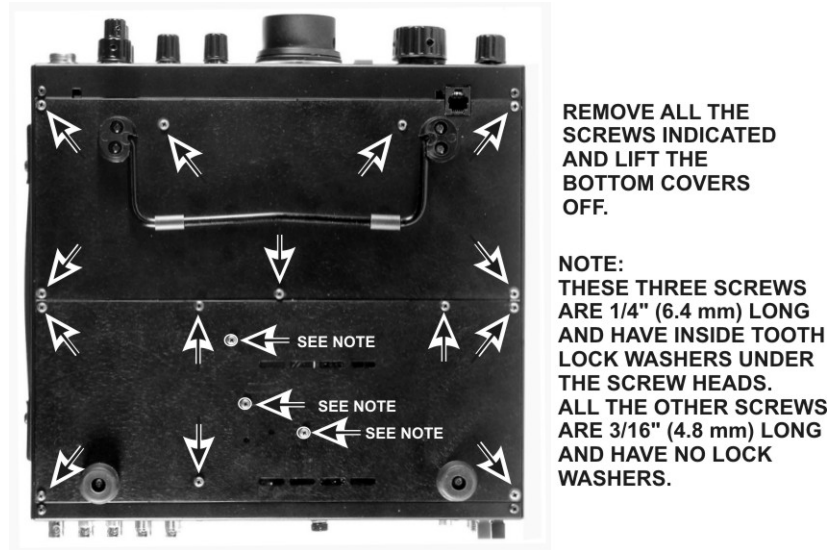

Figure 6. Removing the Bottom Covers.
- Turn the K3 upside down and remove the bottom covers (see Figure 6).
Replace both bottom covers using the 4-40 black pan head screws you removed earlier. Note that three locations take the 4-40 1/4" (6.4 mm) black pan head screws with lock washers as shown in Figure 6, while the remainder are 4-40 3/16" (4.8 mm) screws. Be sure to replace these screws in the correct locations. Make sure all the screws are secure, but do not over tighten them/
Failure to replace the three 1/4" (6.4 mm) screws with their lock washers in the locations shown in Figure 6 may destroy power transistors in your K3!